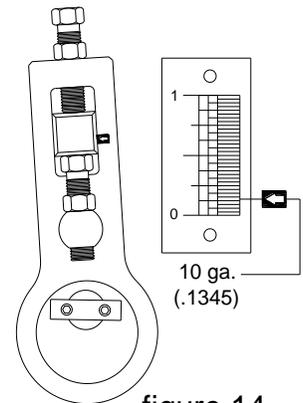

figure 14
1. Set the clamping beam to the thickness of the material you will be bending. (fig. 14) shows the adjusting bolts set for 10 ga. as read on the gauge. See the section on clamping beam pressure adjustments for setting the bolts.